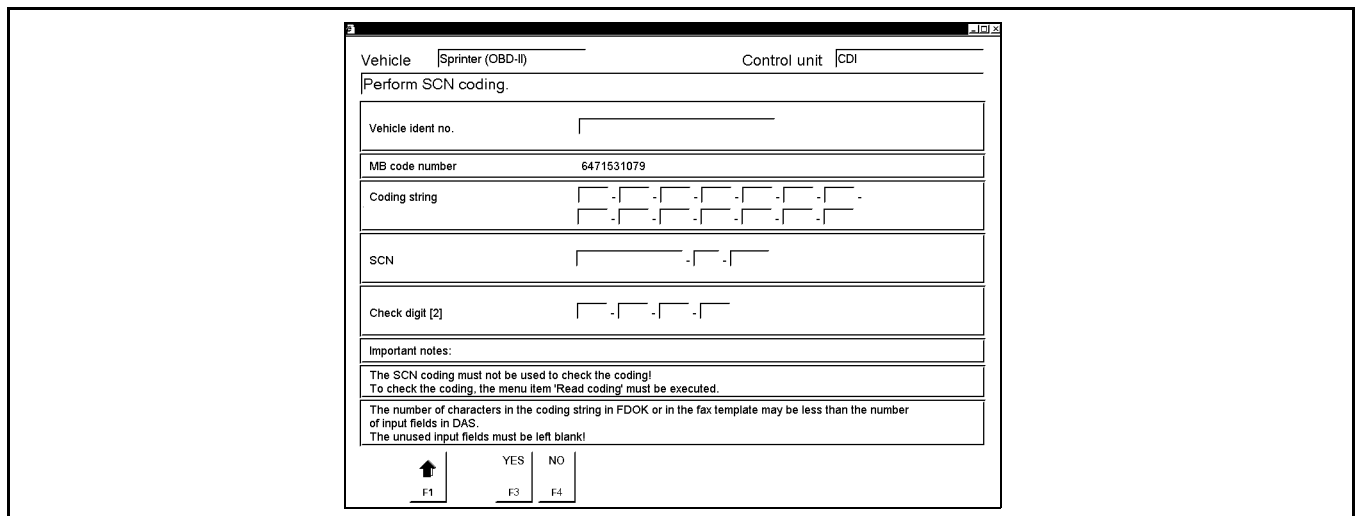

Figure 258 Perform SCN Coding Screen
- Enter the VIN and the new Coding String, SCN and Check Digit in the appropriate input fields (Figure 258). Press the YES button to complete the SCN coding.